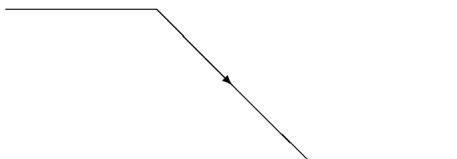

Figure 2 - Selection for Slope Menu on digital oscilloscope.
- Select the slope menu and choose the icon shown in Fig. 2.